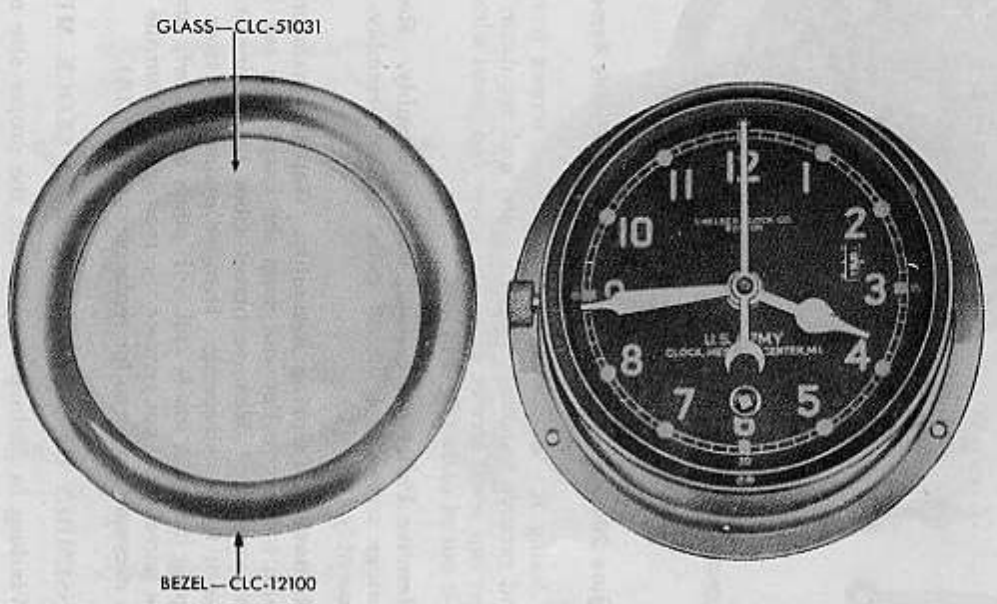

Figure 203 — Message Center Clock M1 — Bezel Removed
- b. **Remove Bezel.** Remove bezel by unscrewing it counterclockwise (fig. 203).
v. **Replace Bezel** (fig. 203). Screw the bezel into place clockwise, making sure the glass does not touch sweep seconds hand or fourth wheel pinion.